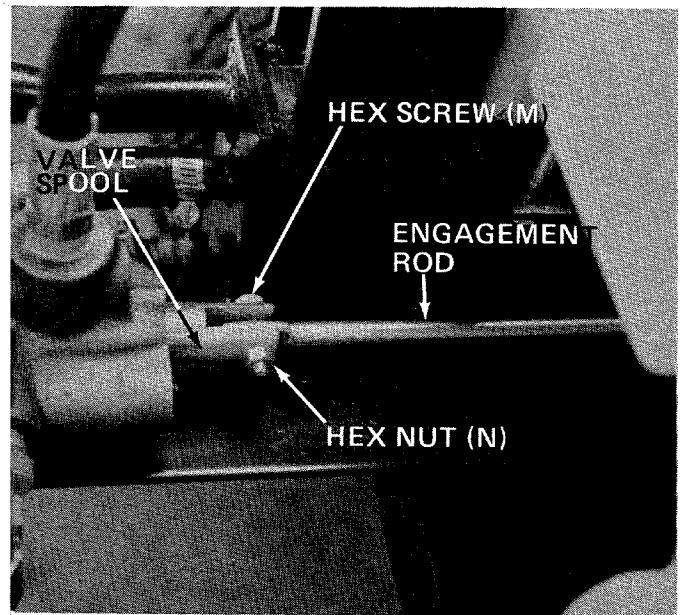

FIGURE 11
11. Place end of engagement rod on valve spool and secure with hex screw (M) and hex nut (N). See figure 11.